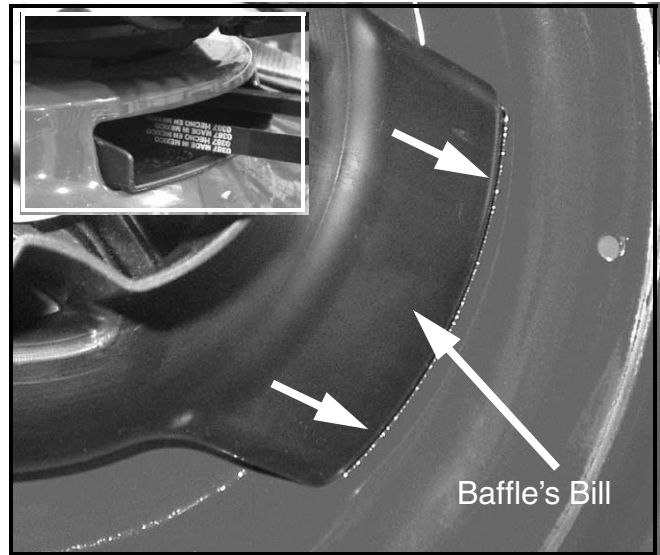

FIGURE 5
9. Place the 931-06029 baffle over the blade adapter and insert the baffle's bill into the deck slot. See Figure 5. Ensure that the lip on the bill seats into the deck slot as shown in Figure 5 Inset.